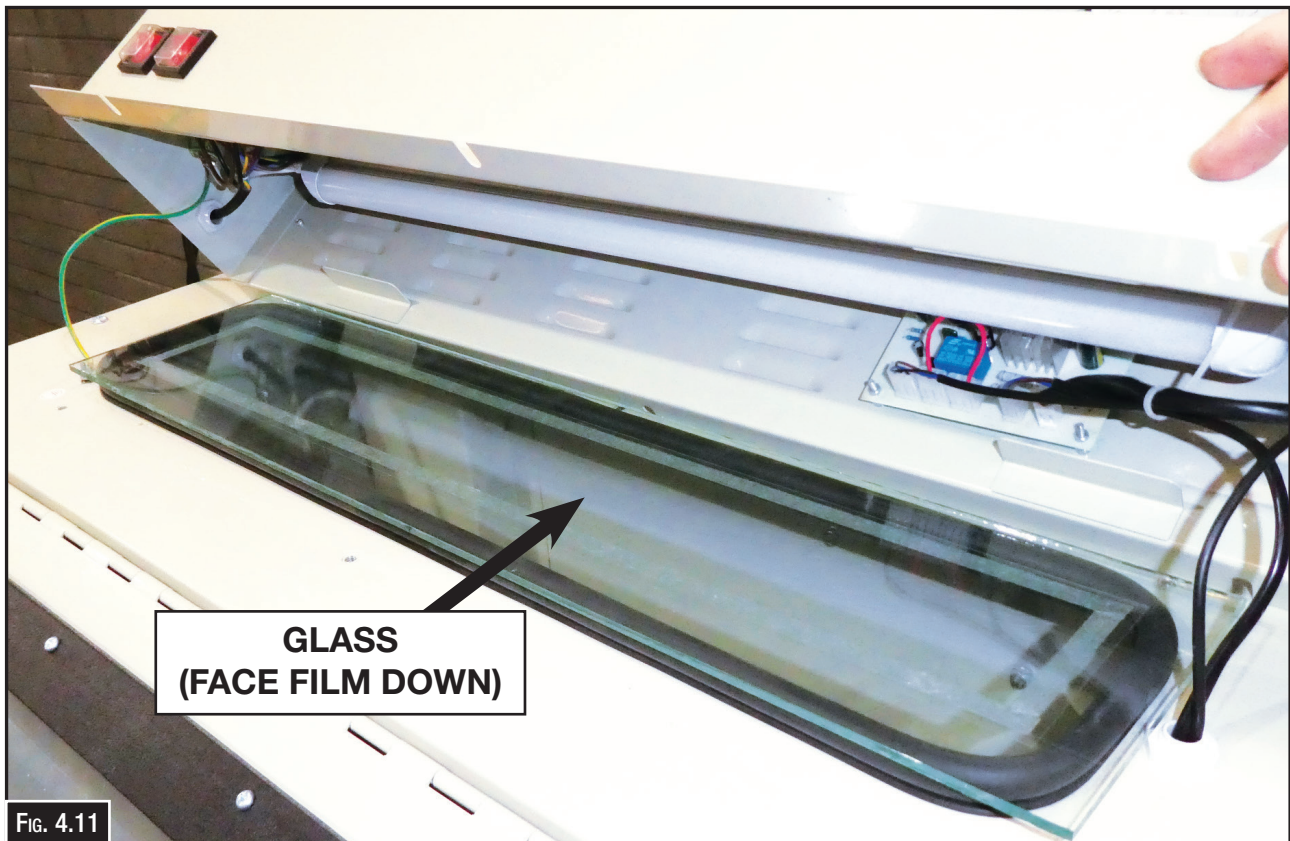

FIG. 4.11
12. Locate and carefully unpack the light assembly glass. Place it on top of the machine with the protective plastic film facing downward. Position it evenly over the rubber seal beneath, as shown. (Fig. 4.11).